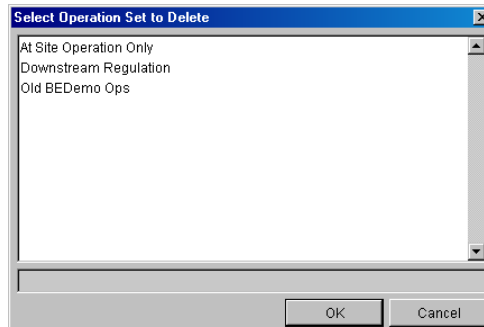

Figure 11.5 Select Operation Set to Delete
1. Select **Delete** from the **Operations** menu of the Reservoir Editor. The **Select Operation Set to Delete** dialog box will open (Figure 11.5).